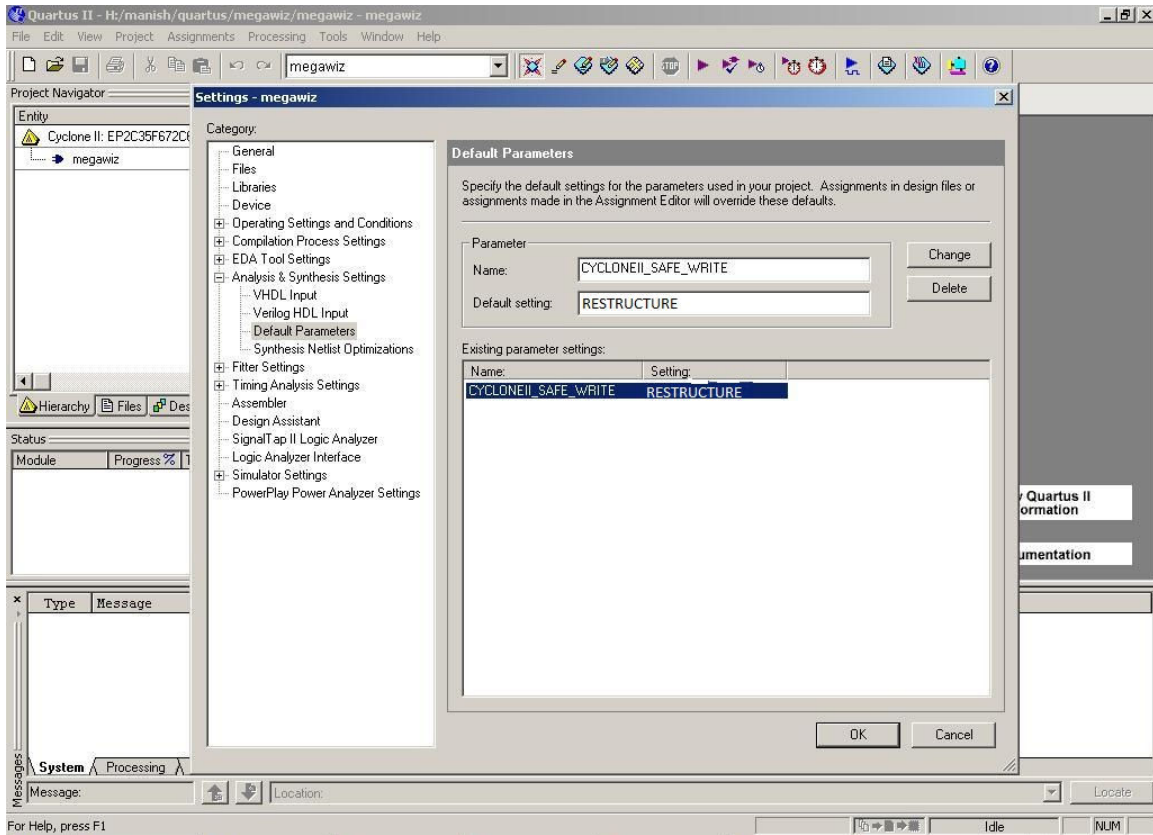

Fig. 8
8. Before you can use the In-System Memory Content Editor tool, one additional setting has to be made. In the Quartus II software select Assignments > Settings to open the window in Fig. 8, and then open the item called Default Parameters under Analysis and Synthesis Settings. As shown in the figure, type the parameter name CYCLONEII_SAFE_WRITE and assign the value RESTRUCTURE. This parameter allows the Quartus II synthesis tools to modify the single-port RAM as needed to allow reading and writing of the memory by the In-System Memory Content Editor tool. Click OK to exit from the Settings window.